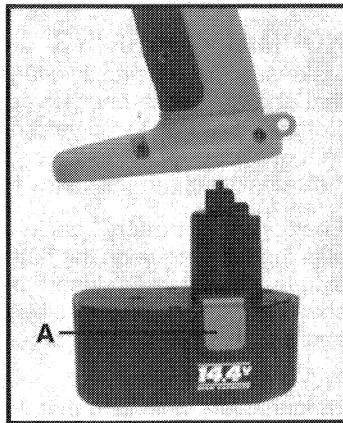

Fig. 4
TO REMOVE BATTERY PACK: Depress the two battery release buttons (A) Fig. 4, (one button on each side of battery pack) and pull battery pack out of tool.